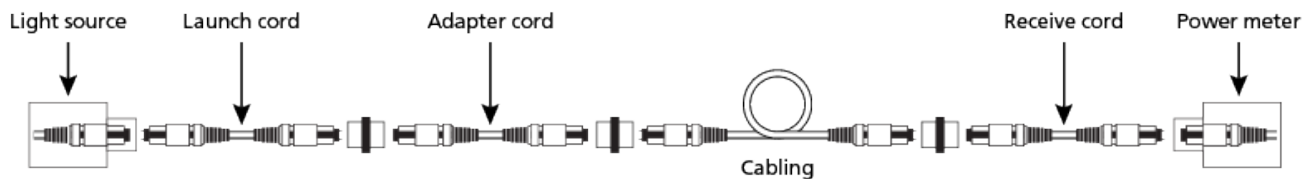

Figure 12. Measure attenuation of cabling 7. Make the measurement and compare to the reference measurement.
5. Attach an adapter cord to the launch cord. 6. Attach the launch cord, adapter cord, power meter, and receive cord to the cabling under test (see Figure 12).